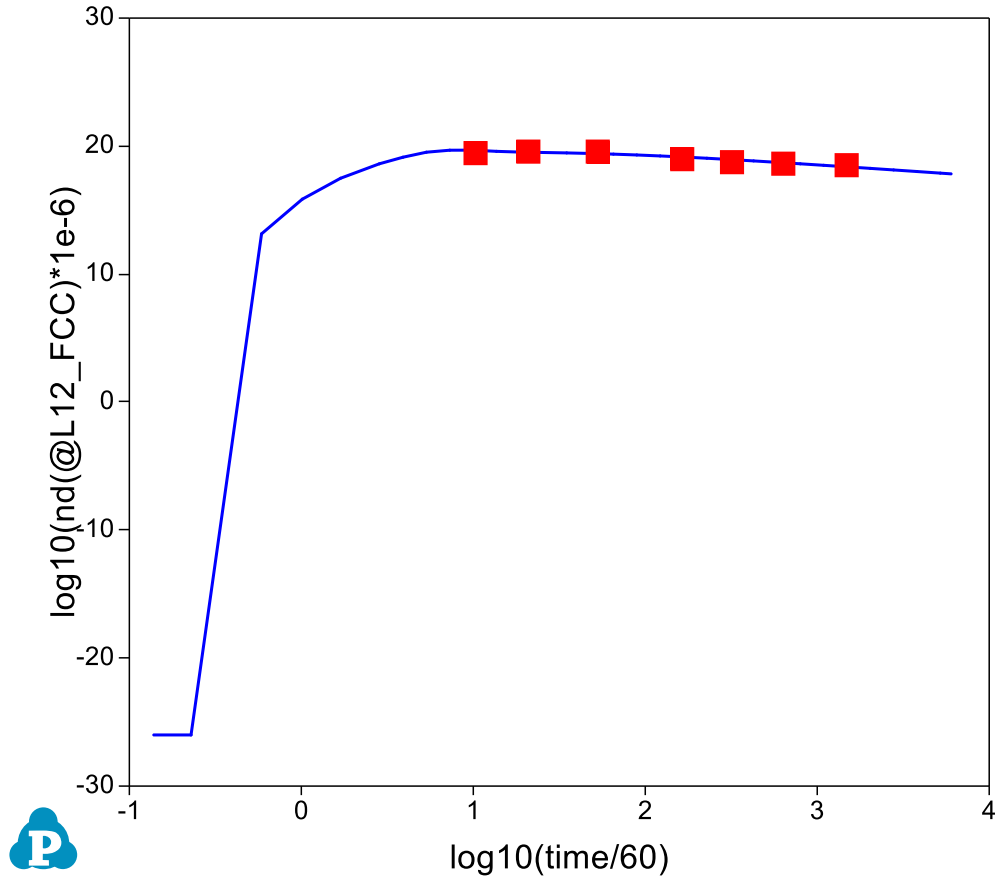

Figure 3.1.8: Plot of number density evolution with experimental data
- Open the nd graph and add the experimental data on it as shown in Figure 3.1.8;
- Particle number density counts the number of particles in a unit volume. Default output from Pandat is number per m^3 , it was converted to number per cm^3 in Figure 3.1.8;